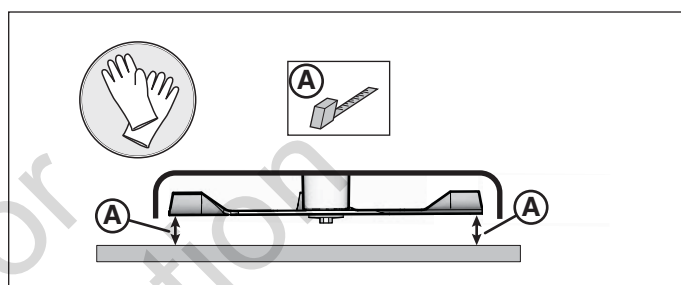

Figure 25. Checking The Blade Height Measurement
10. **For your safety, DO NOT handle mower blades with bare hands.** Position the outside mower blades so that they face front-to-back (Figure 25).